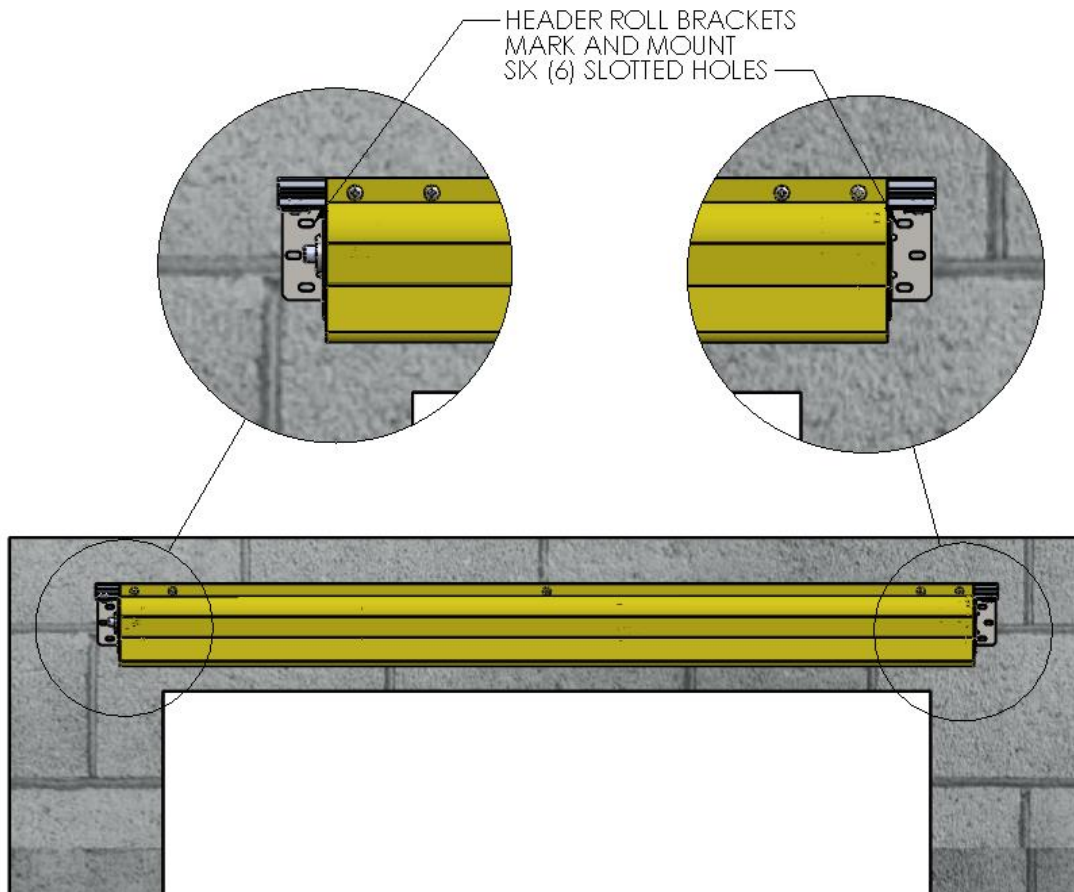

Figure 6 MOUNT HEADER ASSEMBLY TO WALL
8. Using two (2) people, and two ladders at minimum, raise the Roll Header Assembly into place on the wall, and loosely secure with three (3) sets of mounting hardware per side - screws or bolts, adequate to your building/surface material. (Figure 6 MOUNT HEADER ASSEMBLY TO WALL)